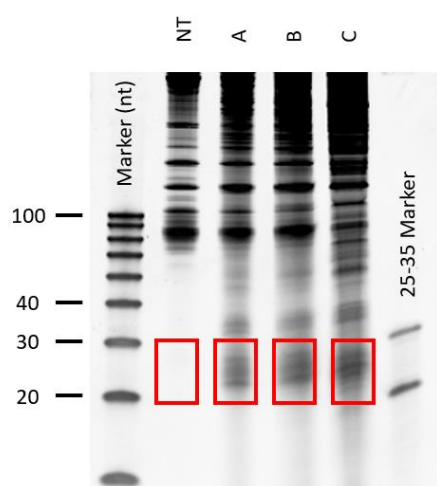

Fig.1 Example of RNA extracted after nuclease titration run on 15% TBE-Urea gel. In the red square the sizes between 25-35 nt.
As depicted in the figure above, not digested sample do not present the typical enrichment of fragments at 25-35 nt (red square in Fig.1). Under-digested sample (A) do not display a high enrichment of RPFs, while over-digested sample (C) shows a smear of signal on the gel. In this example, quantity of Nux used in sample B (AU x 5) needs to be utilized for all the reactions.